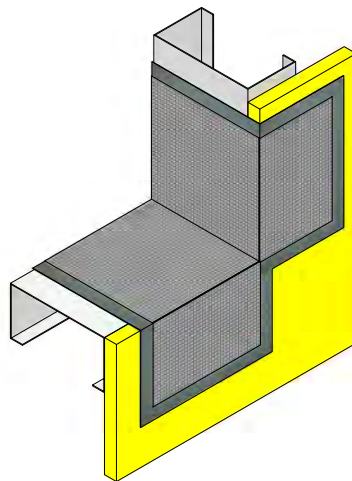

Figure 6
2. Cut SHEATHING FABRIC to desired size. Place the SHEATHING FABRIC into the wet ACROSTOP-R. (See Figure 6)